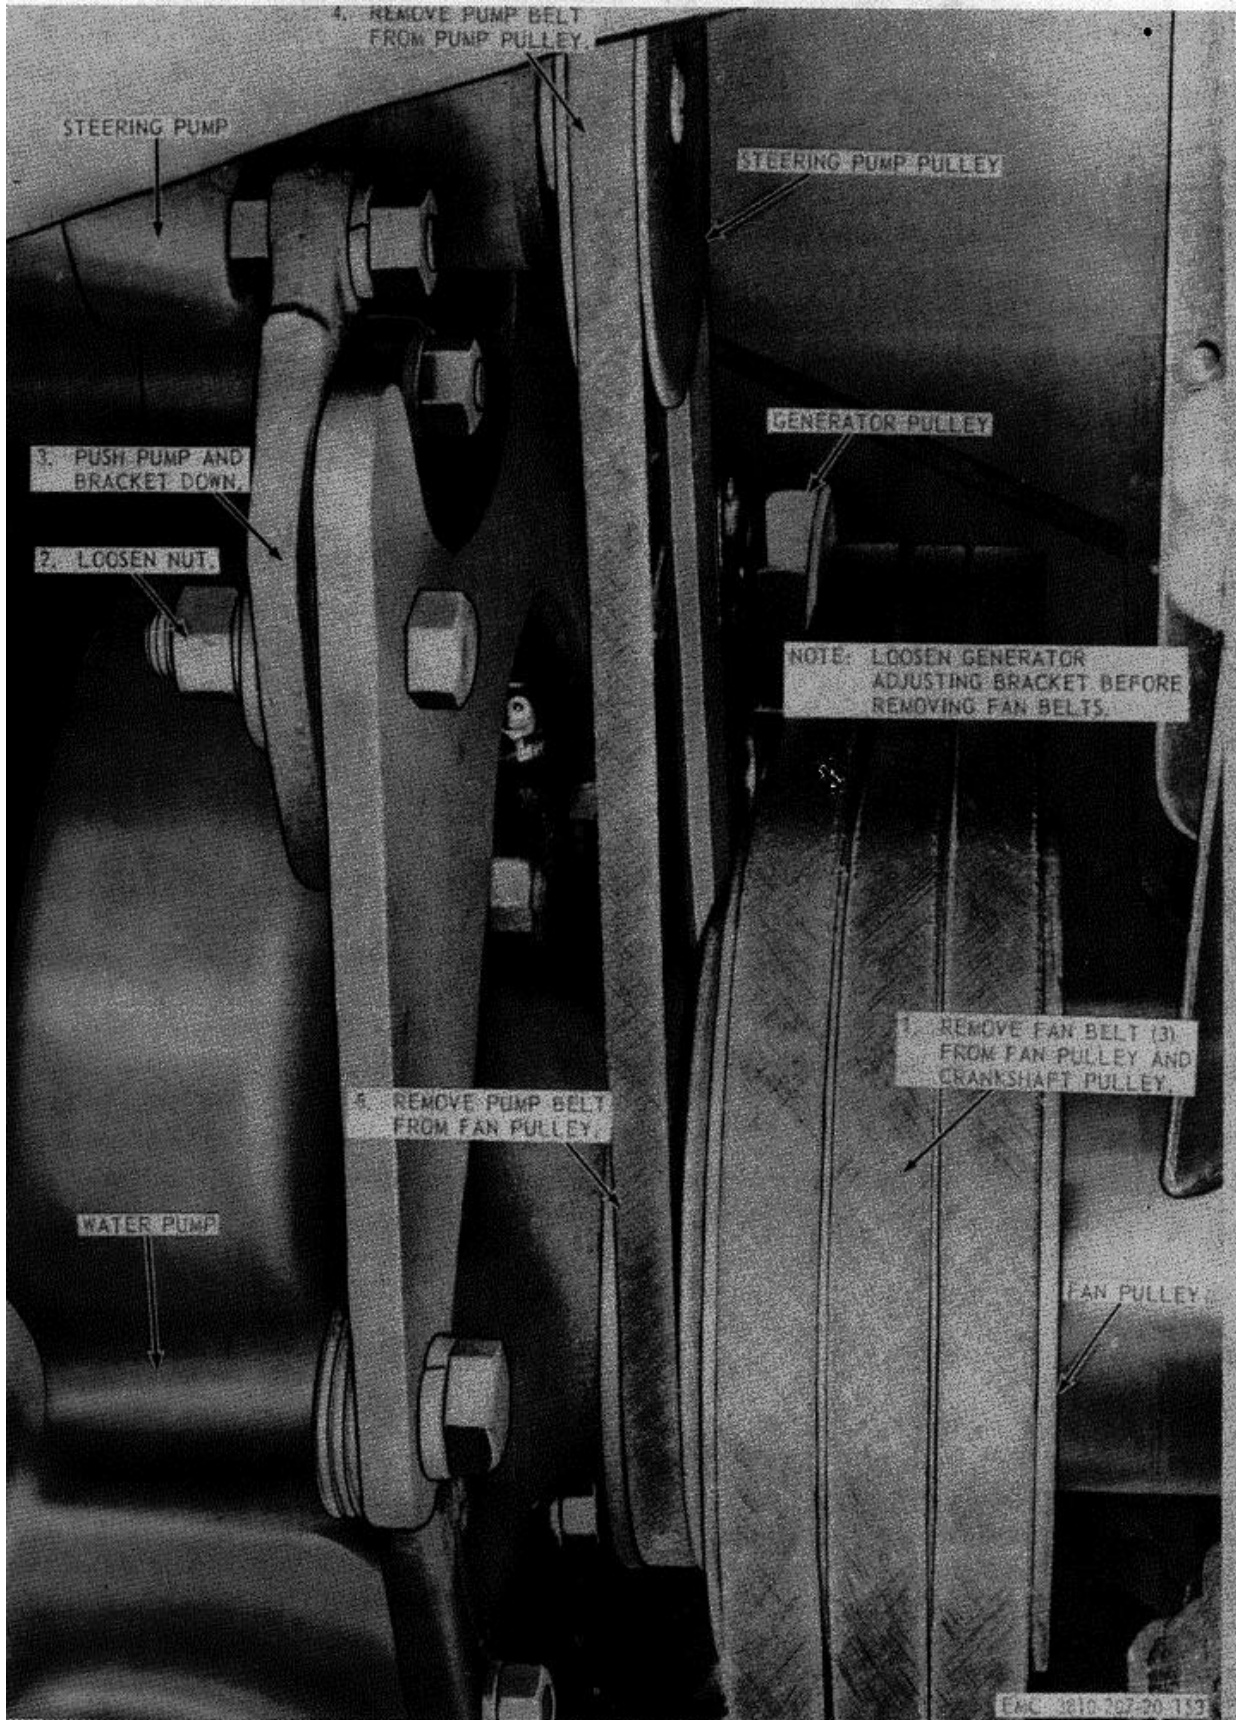

Figure 153. Fan belts and hydraulic steering pump belt, removal and installation.
- (1) Remove the three fan belts from the generator and crankshaft pulley in numerical sequence as instructed on figure 153.
- (2) Remove the hydraulic steering pump belt in numerical sequence as instructed on figure 153.
- (1) Install the hydraulic steering pump belt in the reverse of the numerical sequence as illustrated on figure 153.
- (2) Install the three fan belts on the generator and crankshaft pulley in the reverse of the numerical sequence as illustrated on figure 153.
- (3) Adjust the hydraulic steering pump and fan belts (TM 5-3810-207-10).